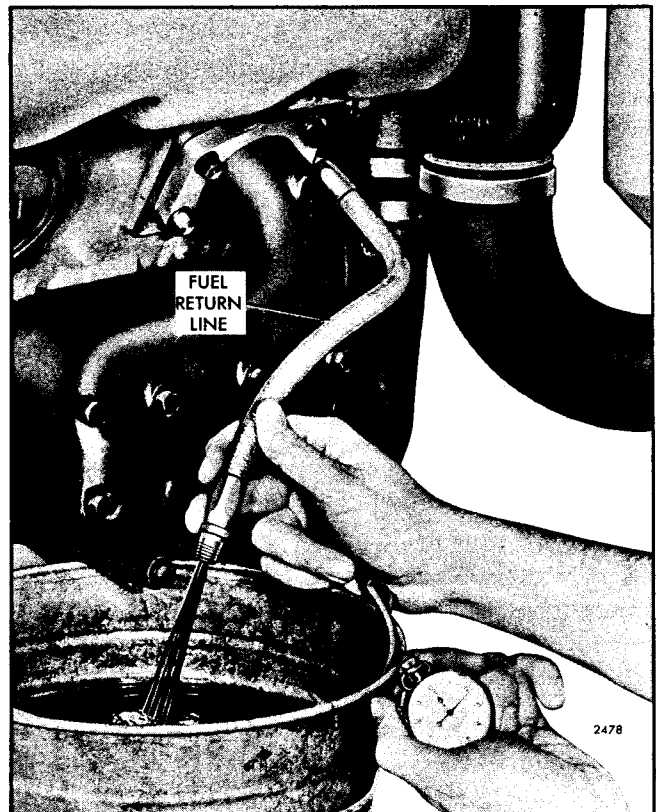

Fig. 3 - Measuring Fuel Flow from Fuel Return Manifold
1. Disconnect the fuel return hose from the fitting at the fuel tank and hold the open end of the hose in a suitable container (Fig. 3).